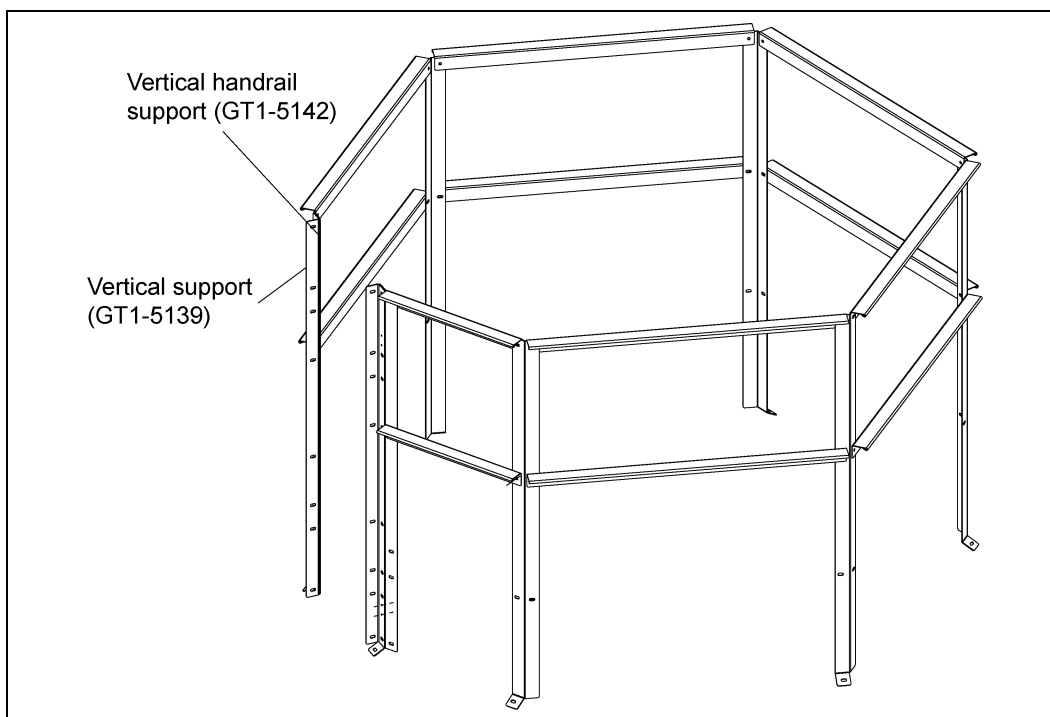

Figure 3G
6. Assemble vertical support (GT1-5139) with vertical handrail support (GT1-5142). Assemble this assembly, with horizontal handrail support (GT1-5137) using 5/16" hardware. *(See Figure 3G.)*